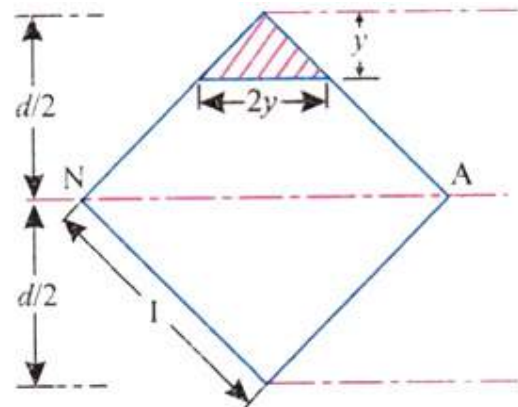

Figure 4
5. A beam of square section subject to a shear force S is so placed that one of its diagonals is horizontal. Sketch shear stress distribution for the section. Refer for Figure. 4